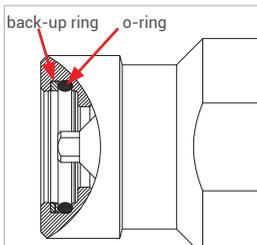

Figure 13
- ▶ Before inserting the receptacle insert (Pos. 7), check the two sealing elements (o-ring and back-up ring; *Figure 13*) for correct installation direction, proper seating, and any damage.